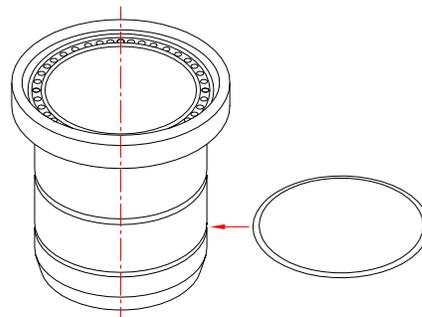

Fig. 14
- i) Fit a replacement O-ring (Fig. 14), ensuring that when fitted into the groove on the liner that twisting or over-extending has not taken place. Failure of these practices could result in low efficiency and excessive oil consumption.